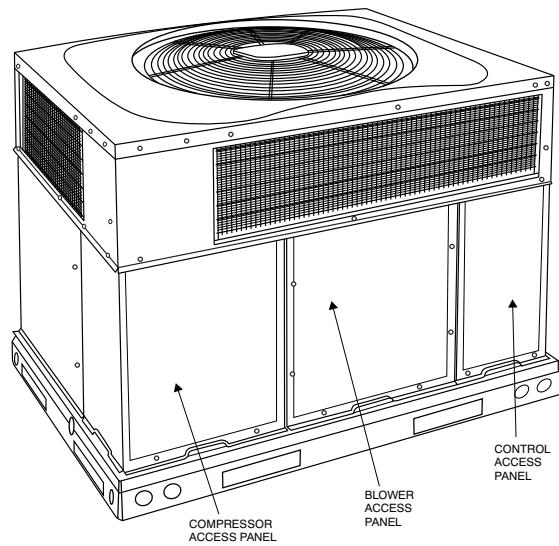

Fig. 22 – Unit Access Panels
- a. Remove blower access panel (see Fig. 22).
- Reinstall blower access panel (see Fig. 22).
Remove blower access panel (see Fig. 22). Limit switch is located on the fan partition.
Remove access panels (see Fig. 22) to locate all the electrical controls and wiring. Check all electrical connections for tightness. Tighten all screw connections. If any smoky or burned connections are noticed, disassemble the connection, clean all the parts, re-strip the wire end and reassemble the connection properly and securely.